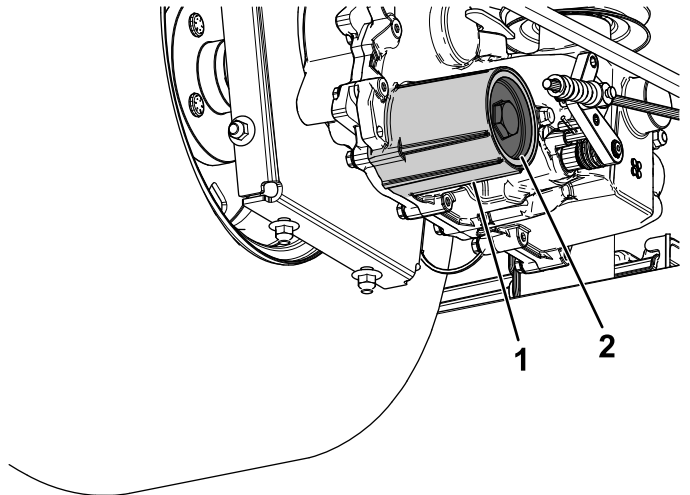

Figure 87
7. Remove the hydraulic-fluid filter cover from the transaxle to drain the fluid (Figure 87).